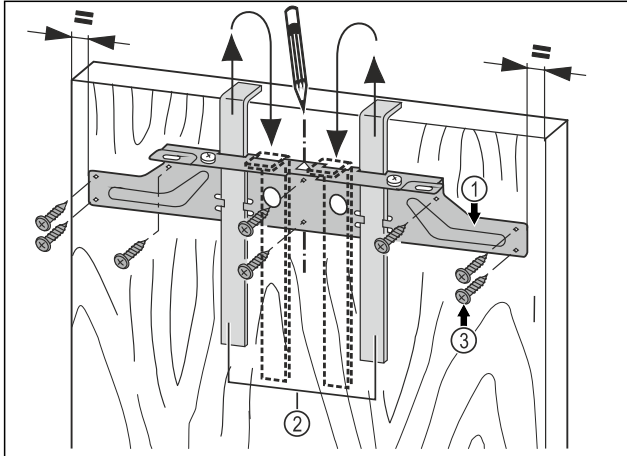

Fig. 45
- Hang the fastening bar Fig. 45 (1) with the mounting aids on the inside of the unit door Fig. 45 (2).
- Align the fastening bar Fig. 45 (1) in the centre of the door.
- Tighten the mounting bar Fig. 45 (1) with at least 6 screws Fig. 45 (3).
- Screw the mounting bar Fig. 45 (1) to the edge with 4 screws Fig. 45 (3).
- Pull the assembly devices Fig. 45 (2) upwards and push them, at an angle, into the receiving openings.